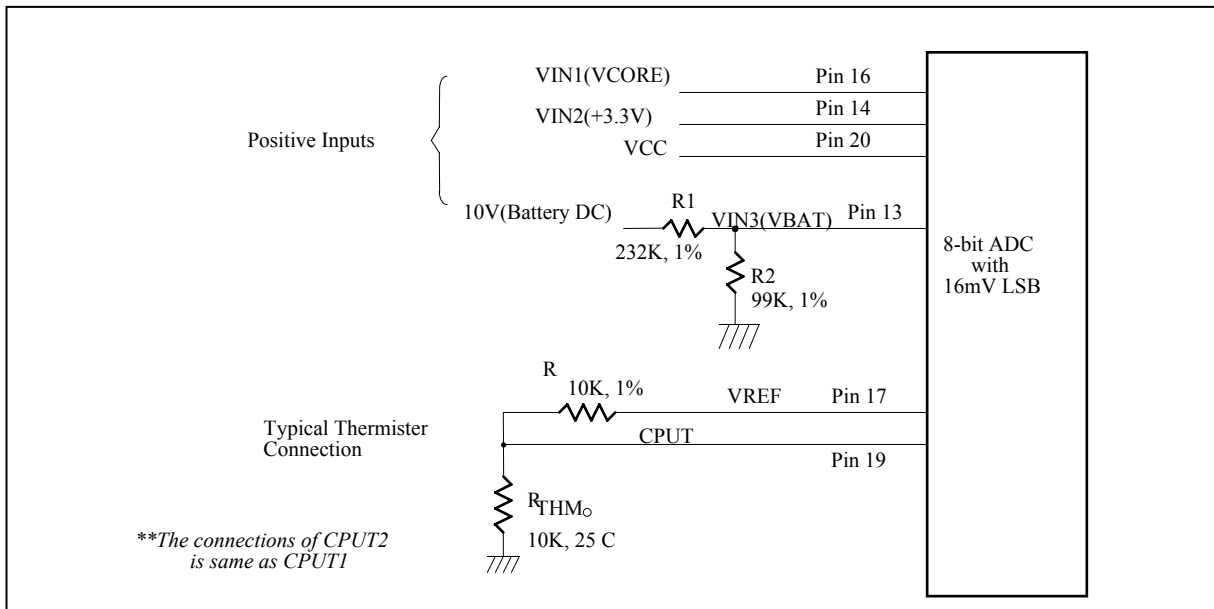

Figure. 10.
The maximum input voltage of the analog pin is 4.096V because the 8-bit ADC has a 16mV LSB. Really, the application of the PC monitoring would most often be connected to power suppliers. The CPU V-core voltage and +3.3V voltage can directly connected to these analog inputs. The 5VSB and battery inputs should be reduced a factor with external resistors so as to obtain the input range. As Figure 10 shows.
The W83L784R/G can connect three thermistors to measure three different environment temperature. The specification of thermistor should be considered to (1) β value is 3435K, (2) resistor value is 10K ohms at 25°C. In the Figure 10, the themistor is connected by a serial resistor with 10K Ohms, and then connect to VREF (pin 17).